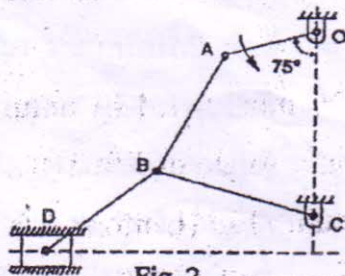

Fig. 2
6. In Fig.2, the angular velocity of the crank OA is 600 rpm. Determine the linear velocity of the slider D and the angular velocity of the link BD, when the crank is inclined at an angle of 75° to the vertical. The dimensions of various links are: OA=28 mm; AB=44 mm; BC=49 mm; and BD=46 mm. the centre distance between the centres of rotation O and C is 65 mm. the path of travel of the slider is 11 mm below the fixed point C. The slider moves along a horizontal path and OC is vertical.